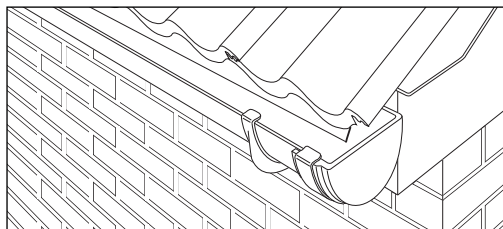

Fig 11 – Overhanging tiles ensuring water discharges into the gutter
- 3 If gutter is not fixed, an overhang of min. 50mm should be allowed (Fig 11).